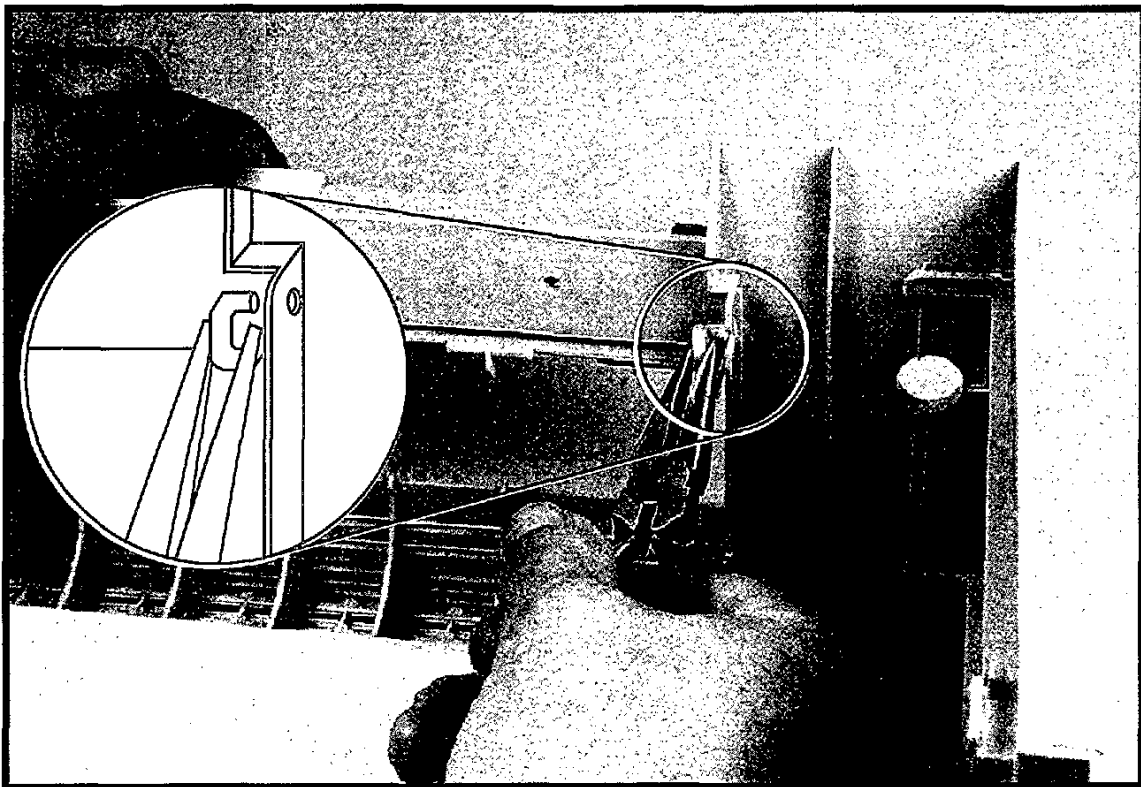

Figure 6-10 Removing the Rear Door
2. With the Rear Door open, gently bend the tab inward and down to release (Figure 6-10).